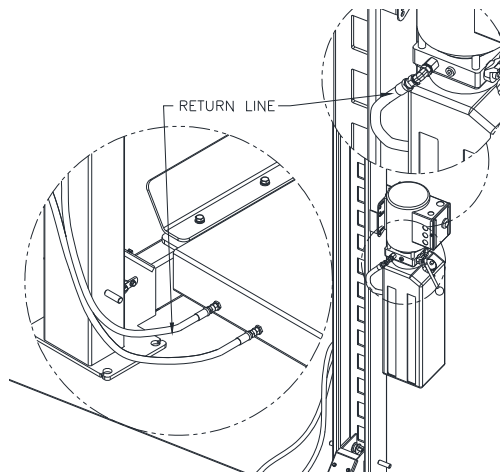

Fig 17 – Return Line, Front
- 33) Remove the 3/8-18 NPT plug on the side of the power unit and attach the 90 degree elbow at a slightly downward angle. Secure the hose to the bulkhead shown in **Fig 17**.